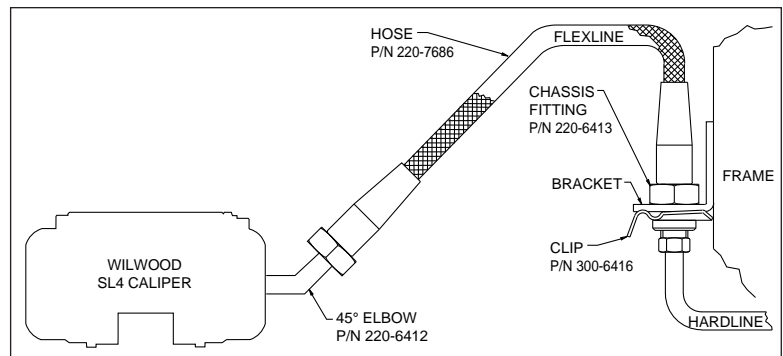

Figure 4. Brake Line Diagram
- Install Wilwood's optional stainless steel braided flexline hose kit, part number 220-9101 (NOT included in kit), see Figure 4. **NOTE:** OEM rubber brake hoses generally cannot be adapted to Wilwood calipers. The caliper inlet fitting is a 1/8-27 NPT. The preferred method is to use steel adapter fittings at the caliper, either straight, 45 or 90 degree and enough steel braided line to allow for full suspension travel and turning radius, lock to lock. **Carefully route lines to prevent contact with moving suspension, brake or wheel components.** Wilwood hose kits are designed for use in many different vehicle applications and it is the installer's responsibility to properly route and ensure adequate clearance and retention for brake hose components.